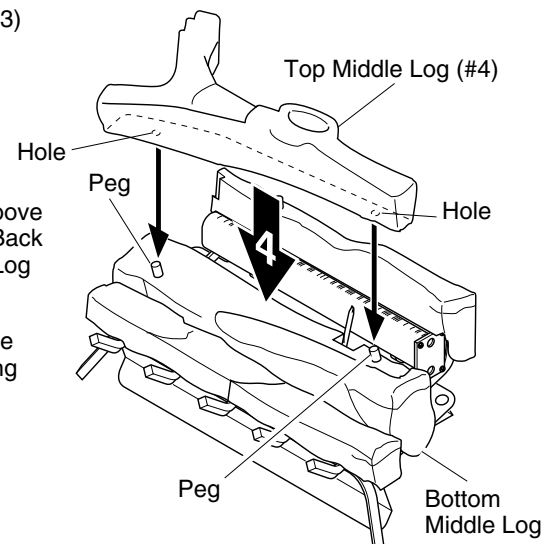

Figure 25 - Installing Top Log (#4)
4. Place the top middle log (#4) on the bottom middle log (#2). Make sure the pegs of the bottom middle log fit securely in the holes of the top middle log (see Figure 25).